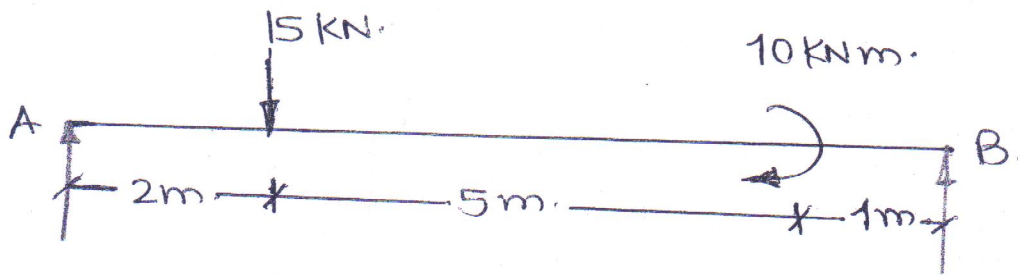

Fig. Q. 2(a).
Q.2(a) Find the maximum deflection in a simply supported beam, loaded as shown in Fig.Q.2(a).